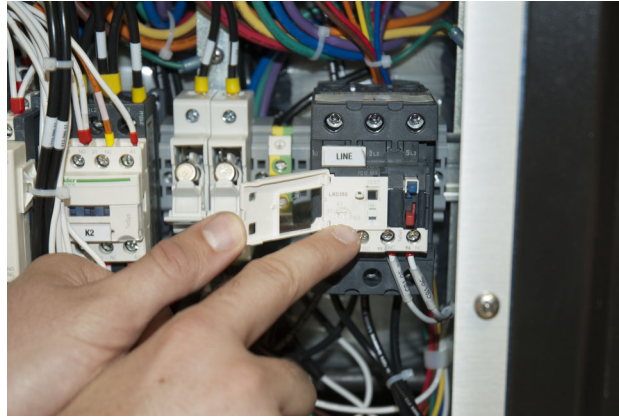

FIGURE 6-4 Circuit breaker
6. Lift the circuit breaker access door and visually confirm the setting as shown in FIGURE 6-4.